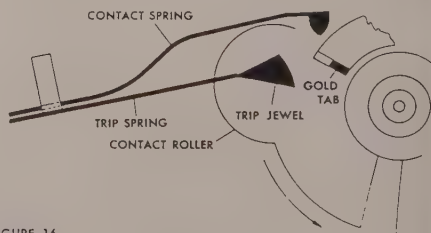
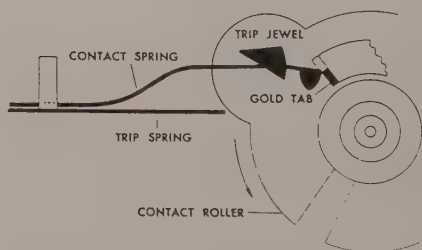

FIGURE 16
FIGURE 17
As you will see later, it would be a waste of time to attempt at this point to set the trip spring pressure accurately. That will be done later. For the present, the trip spring pressure should be such that the contact mechanism will function and nothing more. In Fig. 16 and 17 we show two unsatisfactory conditions due to the trip spring pressure being incorrect. In Fig. 16 we show the trip jewel butting on the end of the trip spring. This is caused by the trip spring exerting too great a pressure against the contact spring. In Fig. 17 we show the gold tab butting on the end of the contact spring. This condition is the result of the trip spring exerting an insufficient pressure against the contact spring. For the present, any position of the springs between the positions shown in Fig. 16 and 17 will be satisfactory.
**Important:** When making other adjustments to the contact system, a condition such as (or similar to) those shown in Fig. 16 and 17 may be created. If this occurs, the trip spring pressure must be adjusted to correct the condition. Keep in mind that the proper trip spring pressure must be maintained at all times to keep the springs within the range in which they can function.